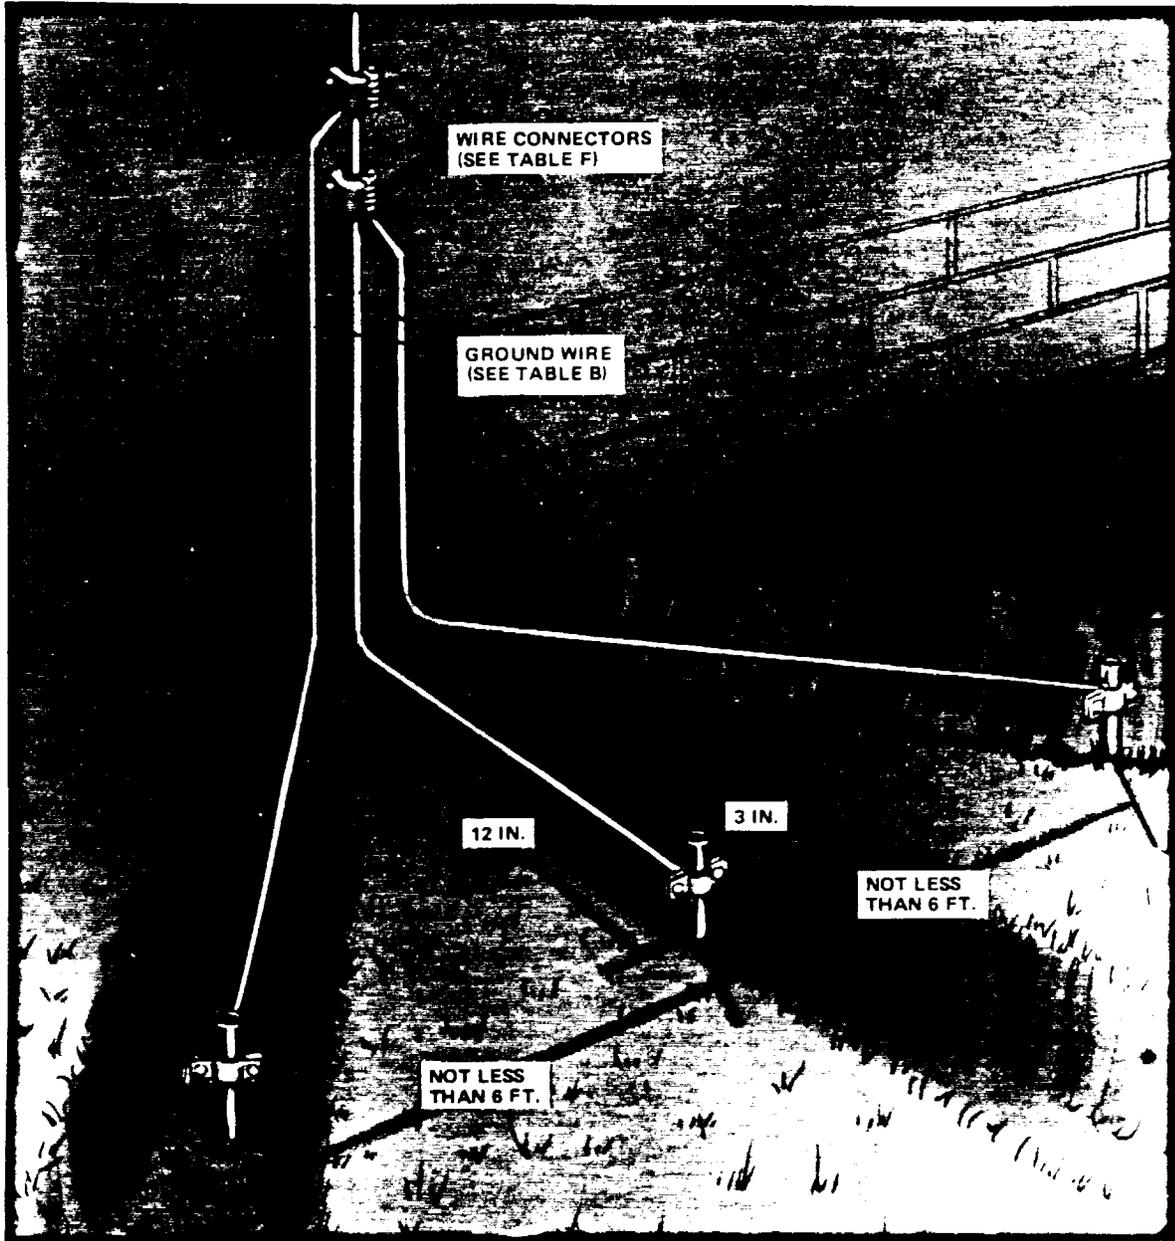

Figure 71—Three Ground Rods
(a) If a power ground rod is not available, install a ground rod for each protector. Bond all protectors together. Select wire connectors from Table F. No more than three ground rods need be placed. Space ground rods at least 6 feet apart (Figure 71).
**9.07** Multiple station protectors, such as the 116 or 117 type, should not be connected to a single telephone ground rod unless the rod is bonded to the power system ground rod. If a power system ground rod is not available, a multiple station protector may be connected to an array of three telephone ground rods, spaced at least 6 feet apart, and bonded together with 6-gauge ground wire (Figure 71).